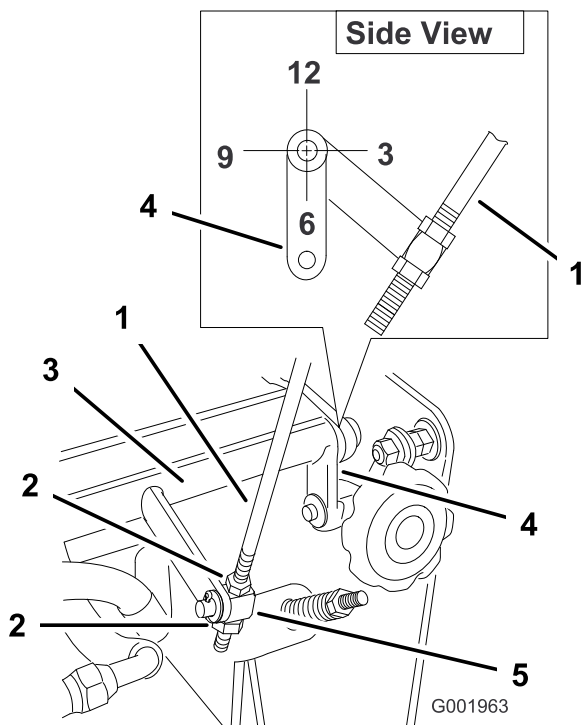

Figure 44
4. Check the orientation of the tabs on the ends of the speed control crank. These tabs should be pointing straight down at the 6 o'clock position approximately (Figure 44).
5. If adjustment is needed, loosen the nuts on both sides of the swivel on the speed control rod (Figure 44).
6. Adjust the swivel until the tabs are at the 6 o'clock position (Figure 44).
7. Tighten the nuts on both sides of the swivel (Figure 44).
10. If needed, adjust the swivel on the speed control rod to center the shift lever travel (Figure 44).